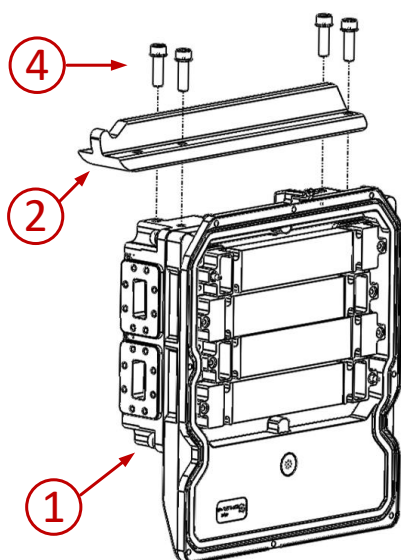

Figure 35: Left Rail Configuration
- With the nose of the rail protruding to the left when facing the inside of the OCU (*Figure 35*).